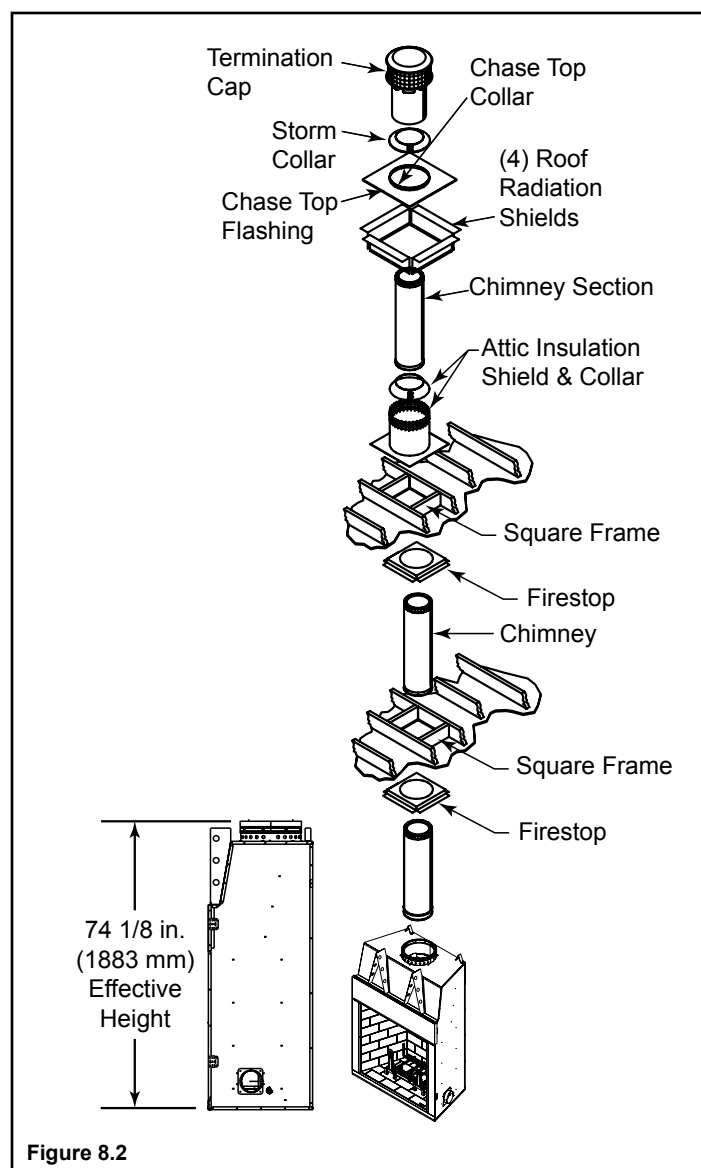

Figure 8.2
- Subtract the effective height of the fireplace assembly (see Figure 8.2) from the total vertical height to determine the overall height of the chimney installation.
- Create a schematic for your application similar to Figure 8.2 showing components required (referring to Table 8.1). Figure 8.1 identifies those components and where used.
From the ceiling, drop a plumb bob to the center of the fireplace's flue outlet and mark this center point on the ceiling. Mark appropriate cutting lines around the center point. Cut a square hole in the ceiling. Frame a level, square opening centered over the hole that you have cut. Frame openings at each floor level above the Fireplace (Figure 8.2). These openings are to hold the Firestop and Attic Insulation shield. Locate each opening by dropping a plumb bob to the four corners of the opening below. Maintain the minimum 2-inch clearance/air space. Maintain the minimum clearances and dimensions as specified in Table 8.1.
A Firestop is required on each floor penetration in multistory installation. Building Codes require a Firestop at every floor/ceiling level, including where the chimney penetrates into the attic. Figure 8.2 shows a typical 2-story installation with an attic. Note: a Firestop is not installed where the chimney penetrates through the roof. The Firestop is installed on the underside of the ceiling/floor framing (Figure 8.3). Use a minimum of either (1) 8 penny nail or (1) 1-1/4" wood screws per corner.